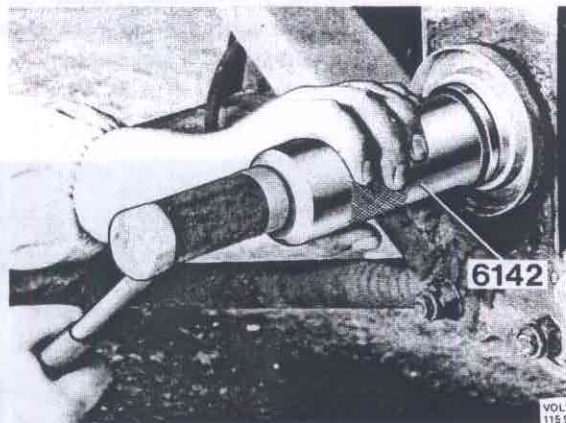

Fig. 76-12. Installing the inner bearing race
3. Place the dust protective plate in position and fit the inner bearing race with sleeve 6142. Tap in the bearing race until it bottoms, see Fig. 76-12.